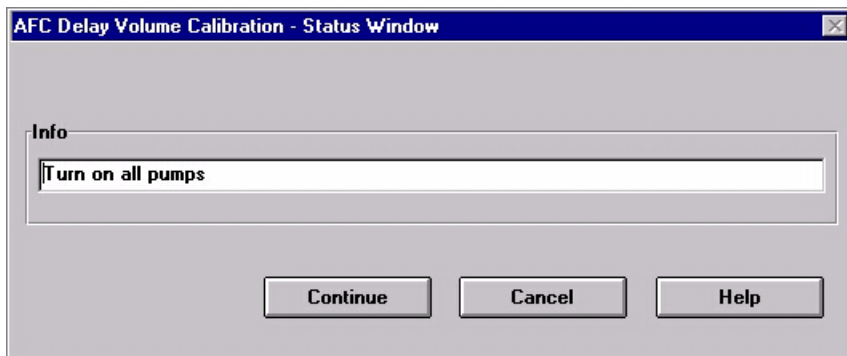

Figure 5 Delay Volume Calibration Status Window
- 7 Click the Continue button. The Info field gives the instruction to turn on the pumps (see Figure 5).